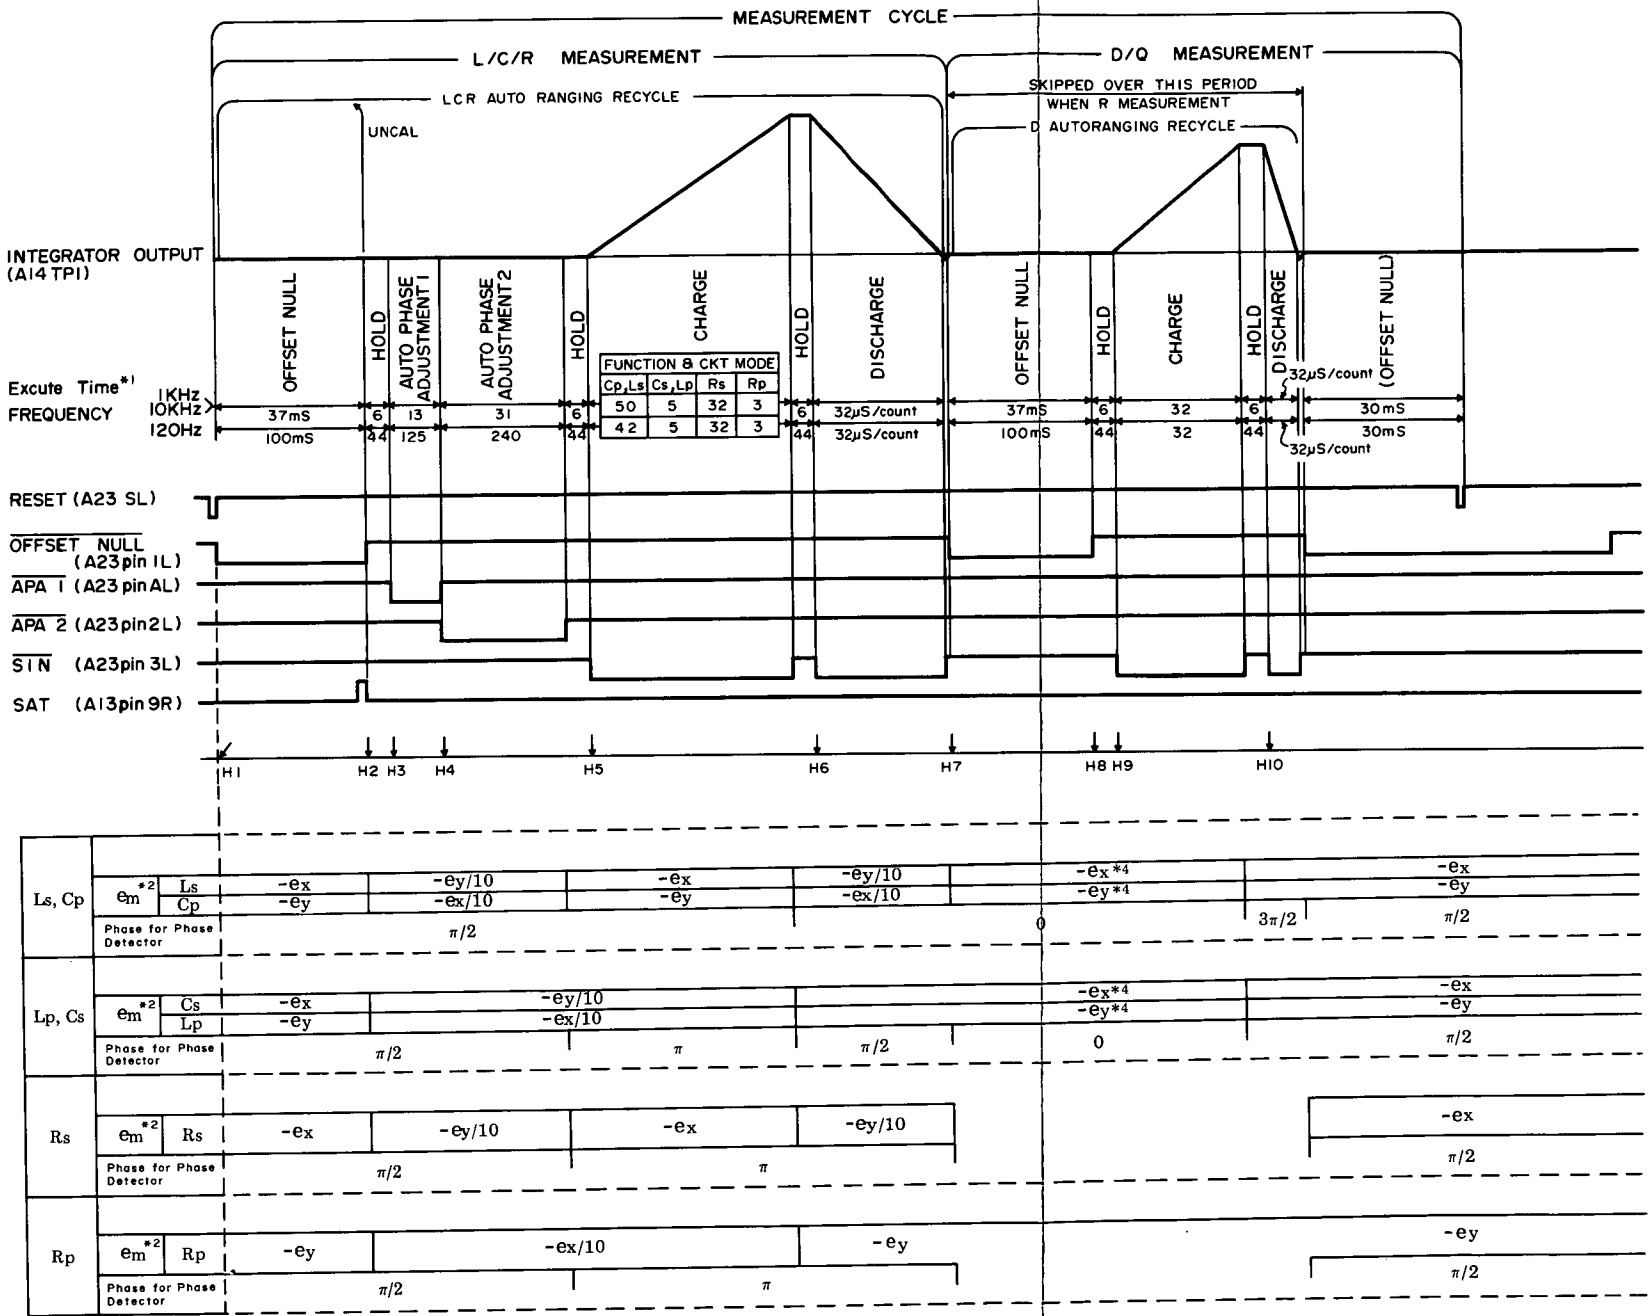

Figure 8-8. Timing Diagram.
The Em signal is selected by FET switches A13Q2, Q3, Q5, and Q6 which are, in turn, controlled by signal selection signals from the digital section. The method of selecting the Em signal is graphically shown in Figure 8-8 Timing Diagrams. The selected Em signal is amplified by A13U6A, U6B and becomes an input signal for the phase detector on A14 Board. The switches A13Q19 and Q18 turn on and off respectively to interrupt the Em signal flow during integrator offset control period. When TEST SIGNAL LOW button is pushed and lights (this pushbutton functions in Cp measurement mode only), the gain of amplifiers A13U5A and U6B is increased. Thus, the voltage levels of Eref and Em signals remain the same as when making a measurement at the nominal (high) test signal level. An SAT detector detects any Em signal level that exceeds approximately ± 5 volts and transfers such SAT signals to digital section.
The Reference Phase Generator produces four reference phase signals each being different by 90 degrees in phase one from the other (these four signals are phase shifted respectively 0, $\pi/2$, π and $3\pi/2$ in radius vector as referred to the input signal Eref.). The reference phase signals are individually selected in a manner peculiar to the measurement modes (four types). The selected reference phase signal is fed to the Phase Detector to drive switches A14Q19, Q20, Q22 and A23 of the Phase Detector. The method of selecting the reference phase signal is illustrated in Figure 8-8 Timing Diagram. To establish the very accurate 90° phase difference, the Reference Phase Generator employs a Phase Locked Loop (PLL) circuit consisting of a local phase detector (PD), filter, and voltage controlled oscillator (VCO). Thus measurement error is minimized. An explanation of Reference Phase Generator operation is given on Service Sheet 14.
8-35. Figure 8-8 presents a timing diagram for the 4262A. The upper part of the diagram shows output waveforms of the integrator, execute time for each measurement sequence, and main control signals which direct the vector voltage ratio measurement. As may be seen from the diagram, the instrument first measures the L/C or R value and then the dissipation (D) and Q (calculated from D) factors. Approximately three seconds after the LINE switch is depressed to turn the instrument on, power voltage (V_{GG}) is applied to the nanoprocessor through a delay switch (A23 board). The nanoprocessor is simultaneously set to its initial conditions ready for beginning the display test which precedes measurement. When the display test ends, the processor sets the 4262A to a predetermined measurement mode (automatic initial settings) and a capacitance measurement is initiated. When LCR and DQ ranges are set to AUTO, the autoranging recycle repeats until an LCR range suitable for the sample is selected. A front panel range indicator lamp lights and step-shifts to left or right. The displays show blanking signs (- - -) during autoranging period. If the sample is too large (in PRL mode) or too small a value (in SER mode) compared to the range, the Saturation Detector (A13) send a SAT signal to the nanoprocessor. Range is shifted just after Offset Null operations are completed (instrument does not cycle through steps in remaining measurement sequence). This permits faster ranging. Setting LCR RANGE to MANUAL bypasses autoranging cycle.